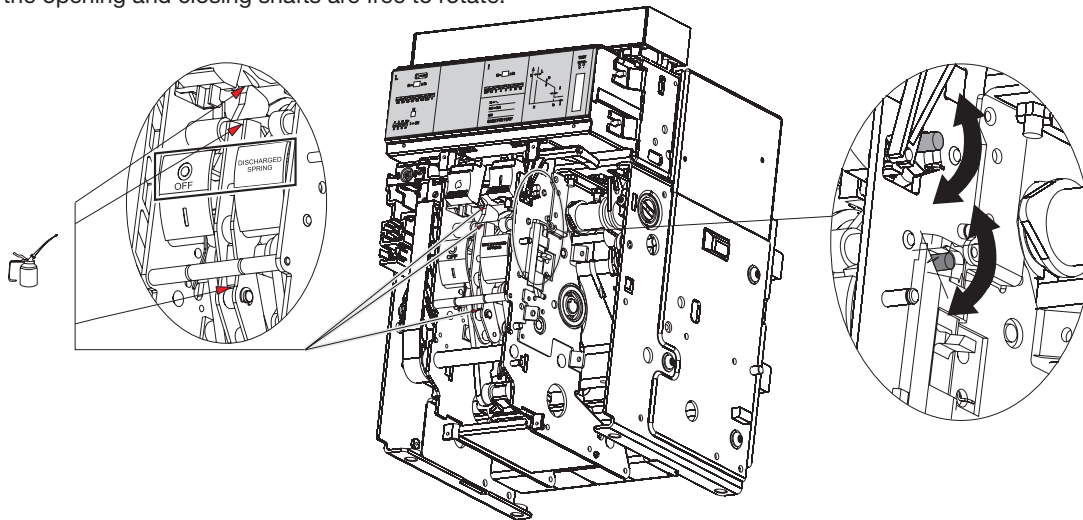

Figure 34.
- Clean at the points indicated in Figure 34. For excessive deposits, a dilutant such as Henkel 273471 or the equivalent can be used.
- Lubricate, at the points indicated in Figure 34, the opening-closing shafts and hooks with MOBILGREASE 28 (EXXON MOBIL).